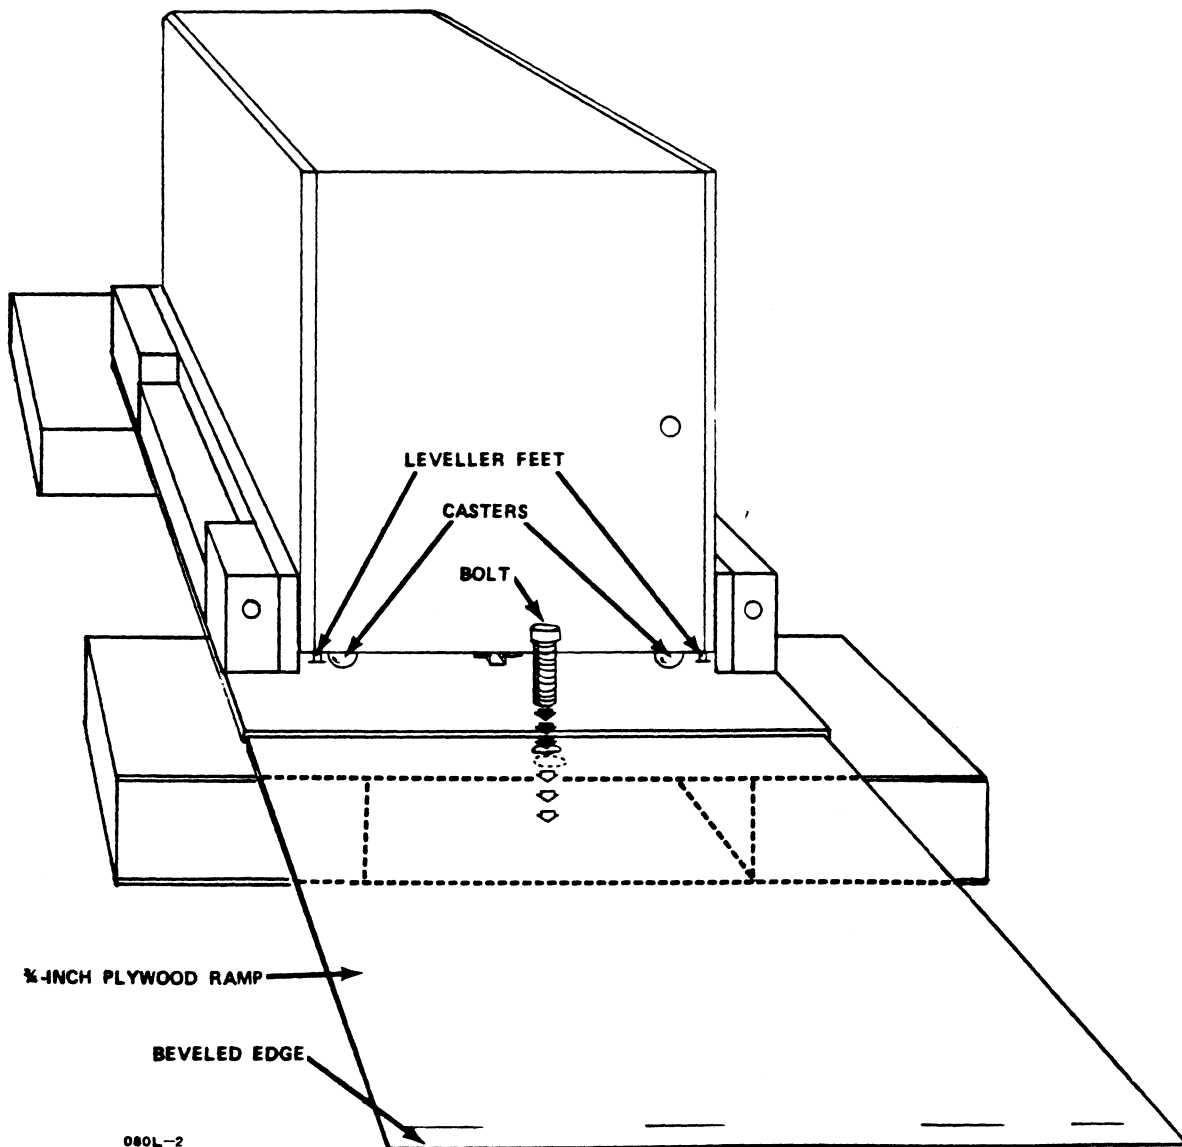

Figure 4. Ramp Installation
5. Place the ramp on the pallet so that the hole in the ramp lines up with the hole in the pallet. Insert one of the bolts taken from the retainer board in step 3 through both holes (see Figure 4).